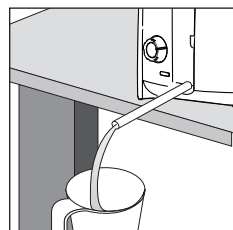

fig. 10
5. Allow the oil or fat to drip into a container (fig. 10).